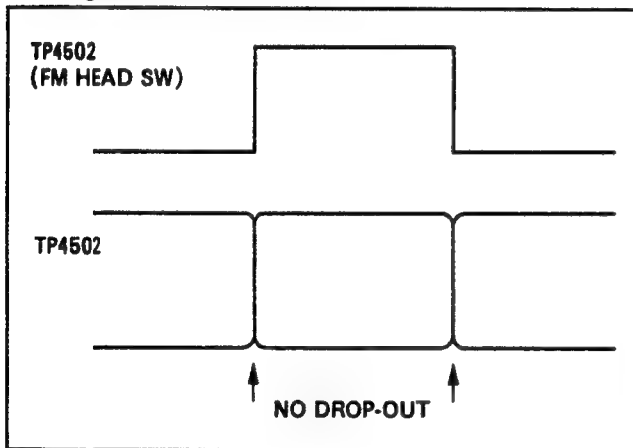

Figure E28
SPEC	SEE FIGURE E28
3. Adjust VR4507 so that there is no drop-out while push the Tracking buttons ("+" or "-") as shown in Figure E28.